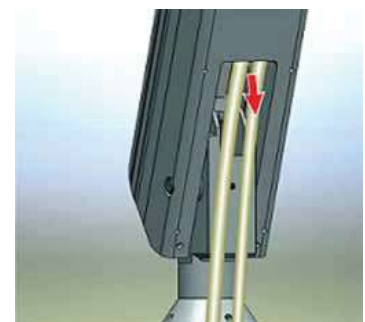

Figure 114
- Pull the extra length of cable and insert it through the outer cover of the vertical arm as shown in the Figure 113 & Figure 114 (First route the communication cable and then route the Inverter power cable).